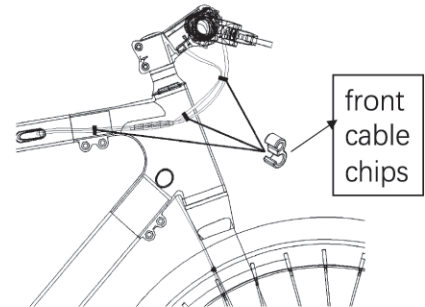

Figure 50-3.
d. Find the front cable chips in accessories box. Fix the display cable and the rear brake cable together, as shown in Figure 50-3.